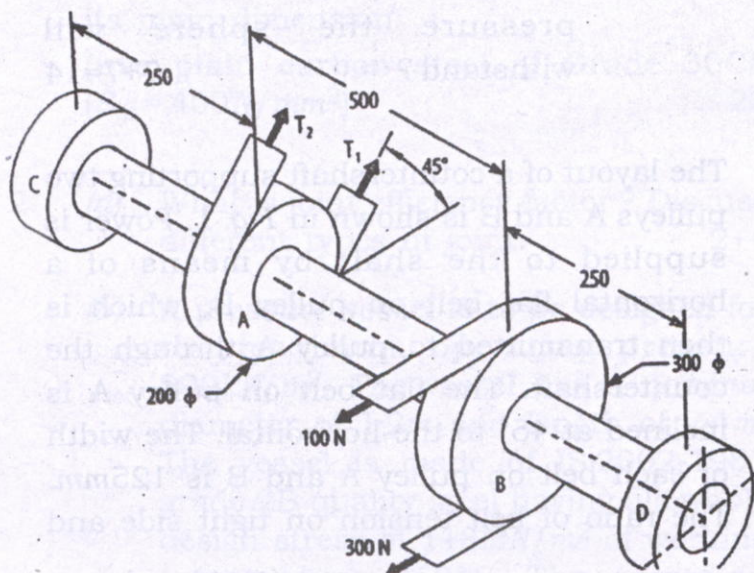

Fig. 1
3. The layout of a countershaft supporting two pulleys A and B is shown in *Fig. 1*. Power is supplied to the shaft by means of a horizontal flat belt on pulley B, which is then transmitted to pulley A through the countershaft. The flat belt on pulley A is inclined at 45° to the horizontal. The width of each belt on pulley A and B is 125mm . The ratio of belt tension on tight side and